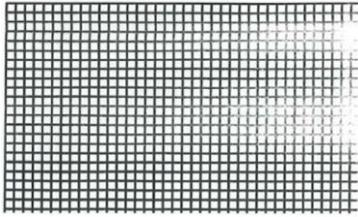
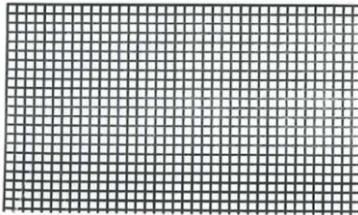
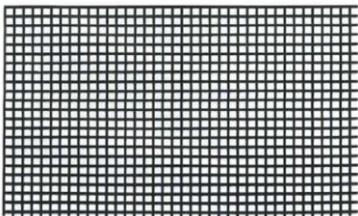

Fig. 7.5 Grid test label printed with incorrect alignment of printhead and platen (density 10%)
Fig. 7.6 Grid test label printed with correct alignment of printhead and platen (density 10%)
Fig. 7.7 Grid test label printed with correct alignment of printhead and platen (density 60%)
3. Loosen the spring function lock screw (10).
4. Check whether mounting plate (11) can move freely between the offset screws (4 + 9). If not loosen the offset screw (9).
5. Loosen the lock nuts of the adjustment screws (5).
11. Level the platen out with the print head by turning the four socket-screws (5) until a uniform, good quality print is obtained. The gap between the print head and the substrate should be about 3 mm. If so, the four lock nuts (5) need to be tightened. After tightening the lock nuts, re-adjust by means of either the socket screws or density adjustment if necessary.
12. Examine the print result Fig. 7.5, Fig. 7.6 and Fig. 7.7. If the print is good proceed, otherwise readjust the printer according to the steps above.